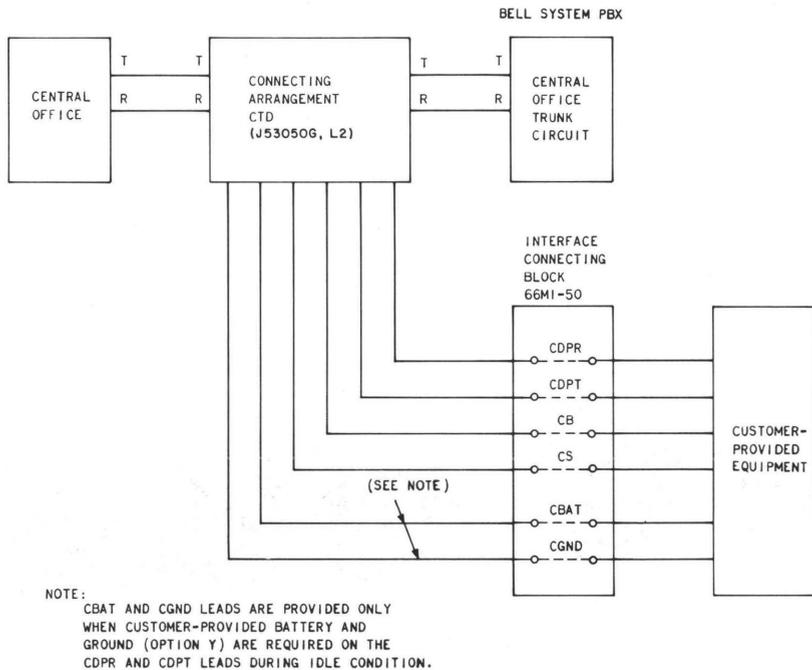
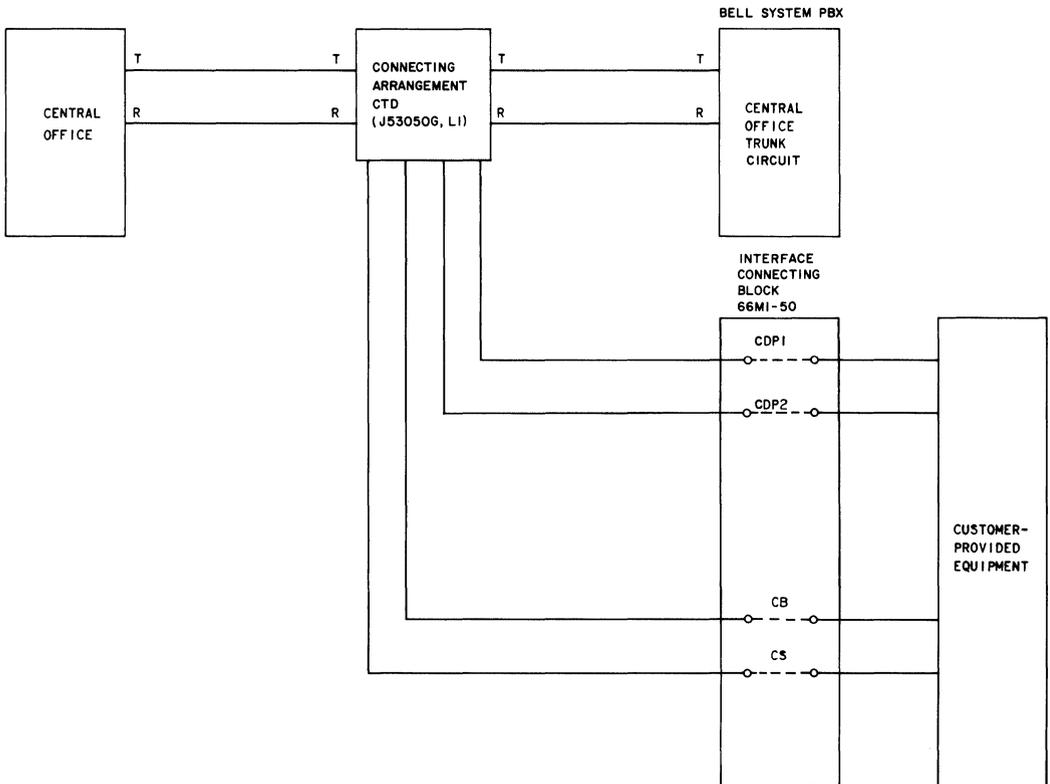
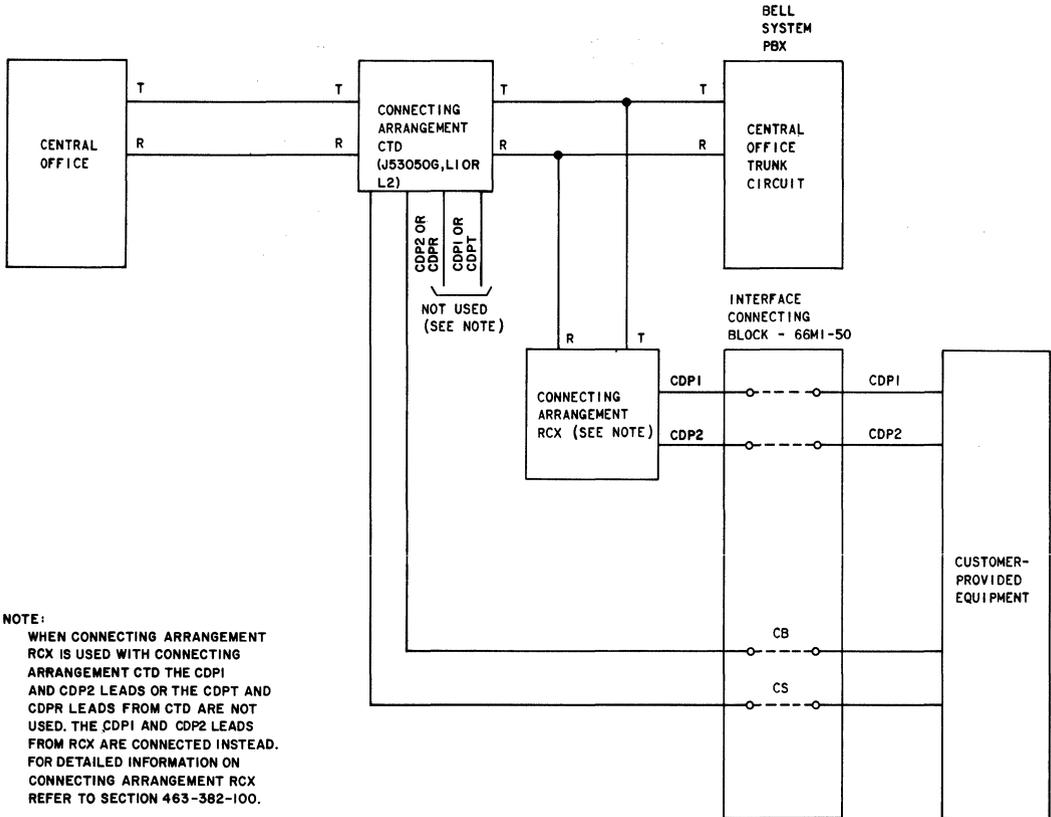
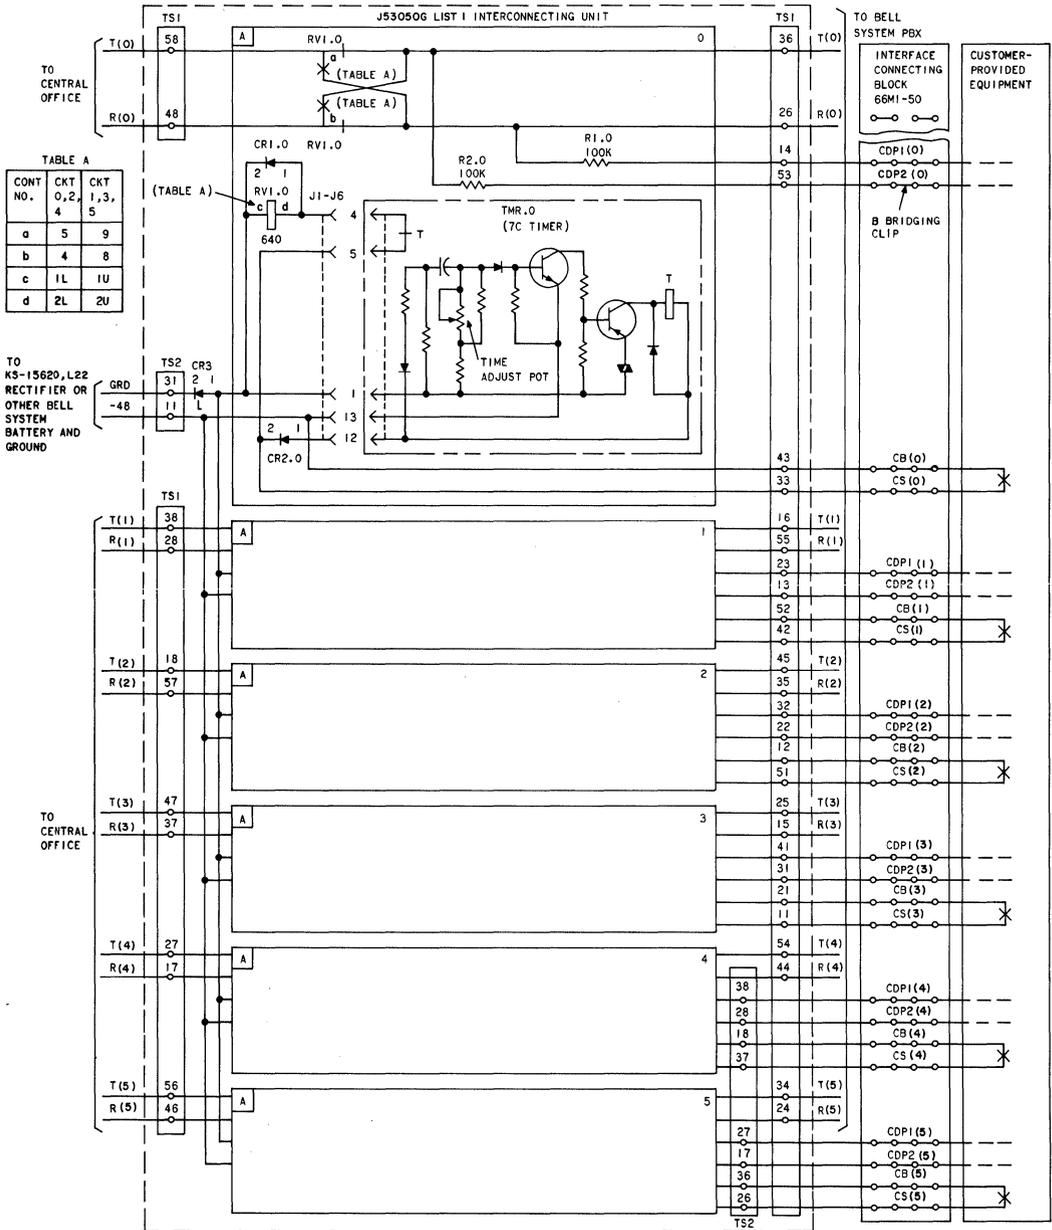

Fig. 3—Block Diagram—Typical Connecting Arrangement CTD—Using J53050G, List 2 IU
Fig 4—Block Diagram—Typical Connecting Arrangement CTD—Using J53050G, List 1 (MD) IU
Fig. 5—Block Diagram—Typical Connecting Arrangement CTD Used With Connecting Arrangement RCX
Fig. 10—Simplified Schematic and Connections—Connecting Arrangement CTD, Using J53050G, List 1 (MD) IU
1.05 A block diagram of a typical Connecting Arrangement CTD, using a J53050G, List 2 IU, is shown in Fig. 3. A block diagram of a typical Connecting Arrangement CTD, using a J53050G, List 1 (MD) IU, is shown in Fig. 4. A block diagram of a typical Connecting Arrangement CTD used with a Connecting Arrangement RCX is shown in Fig. 5.
Relay PG operated also connects leads CDPT and CDPR to the line through 100K resistors. Connecting Arrangement CTD provides an off-hook indication and passes dialing to the CPE over leads CDPT and CDPR (if the CPE requires contact closures for off-hook indication and dial pulsing, these are provided by Connecting Arrangement RCX; leads CDPT and CDPR from Connecting Arrangement CTD are not used—see Fig. 5). When the station dials, relay L may follow dial pulses; however, relay PG is a slow release relay and will remain operated during dialing. If the CPE determines that the dialed number is to be denied completion, it places a contact closure of at least one second duration across leads CB, CS toward Connecting Arrangement CTD. The contact closure across leads CB, CS causes relay RV to operate (Fig. 7) and starts the 7C timer circuit associated with the CO trunk. The RV relay operated reverses the CO battery on leads T, R toward the PBX. Within approximately 250 to 500 ms after the closure across leads CB and CS, the T relay in the timer circuit operates (the Time Adjust Pot on the 7C timer covers a total interval of 100 to 1000 ms and must be set at one-quarter turn clockwise to produce the 250 to 500 ms interval). The T relay operated releases the RV relay which restores the CO battery, on leads T, R toward the PBX, to the original polarity. The T relay remains operated until the contact closure across leads CB, CS is removed by the CPE.
4.04 **Connecting Arrangement CTD, Using J53050G, List 1 (MD) IU (Fig. 10):** When a station on a Bell System PBX seizes a CO trunk for an outgoing call, Connecting Arrangement CTD
provides an off-hook indication and passes dialing to the CPE over leads CDP1 and CDP2 (if the CPE requires contact closures for off-hook indication and dial pulsing, these are provided by Connecting Arrangement RCX; leads CDP1 and CDP2 from Connecting Arrangement CTD are not used—see Fig. 5). If the CPE determines that the dialed number is to be denied completion, it places a contact closure of at least one second duration across leads CB, CS toward Connecting Arrangement CTD. The contact closure across leads CB, CS causes relay RV to operate (Fig. 10) and starts the 7C timer circuit associated with the CO trunk. The RV relay operated reverses the CO battery on leads T, R toward the PBX. Within approximately 250 to 500 ms after the closure across leads CB and CS, the T relay in the timer circuit operates (the Time Adjust Pot on the 7C timer covers a total interval of 100 to 1000 ms and must be set at one-quarter turn clockwise to produce the 250 to 500 ms interval). The T relay operated releases the RV relay which restores the CO battery, on leads T, R toward the PBX, to the original polarity. The T relay remains operated until the contact closure across leads CB, CS is removed by the CPE, which returns Connecting Arrangement CTD to the idle condition.
TESTS—J53050G, LIST 1 (MD) INTERCONNECTING UNIT (FIG. 10)